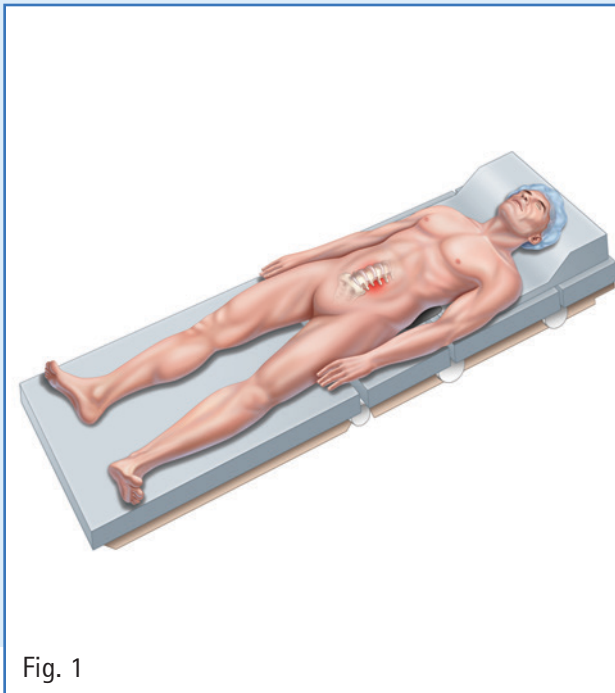

Fig. 1
- Place the patient in the supine position. A lumbar roll can be placed under the patient's lower back to allow for increased lordosis of the targeted level(s) (Fig. 1).